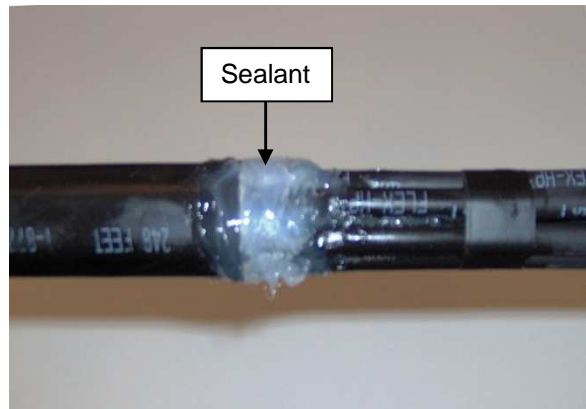

Figure 31
13.3 Refer to Sumitomo Recommended Procedure SRP SP-F04-019 for detailed procedures. **See Fig. 31.**